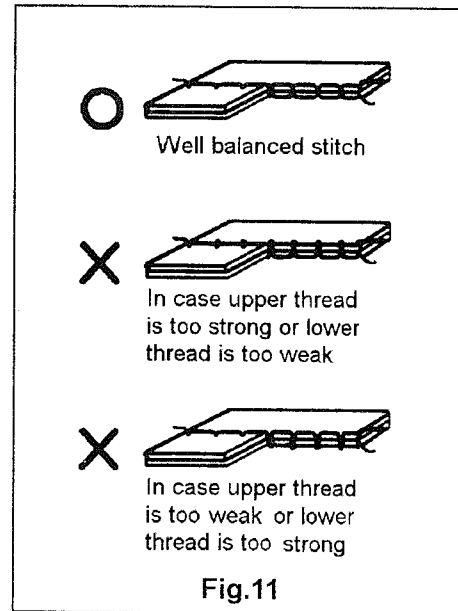

Fig.11
12. Adjustment of the thread tension (Fig.11):